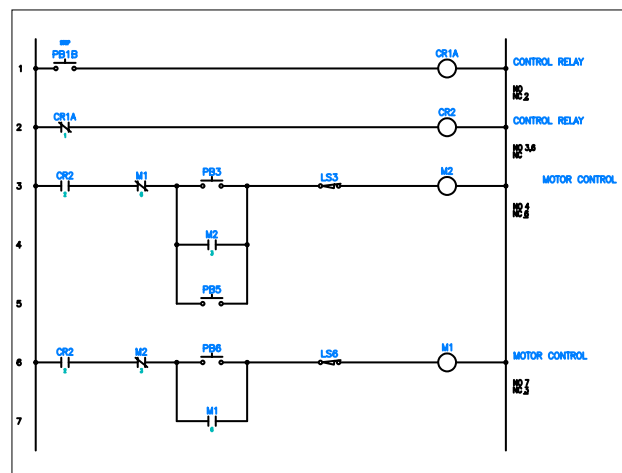

Figure 6-56 The trimmed wires and the aligned components
6. Repeat step 1 and then select PB3 from rung 3; you are prompted to select objects. Next, select M2 placed on rung 4, PB5, PB6, and M1 placed on rung 7 from the drawing and then press ENTER; the selected components are aligned. Figure 6-56 shows the aligned components.